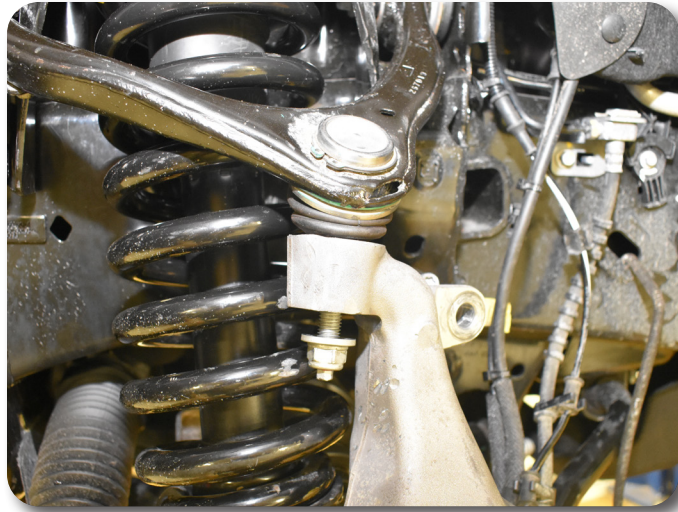

Figure 7
11. Support the lower control arm with a hydraulic jack. Remove the upper ball joints from the knuckle. Use an appropriate ball joint separator to dislodge the upper ball joint taper from the knuckle. **Figure 7** Allow the knuckle to rest back away from the front strut.